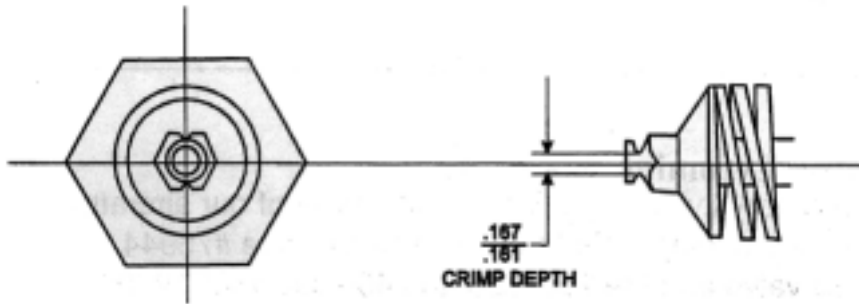

Figure 1.
Step 1 is the dimensional inspection of the crimp nut. The crimp depth on the nut must be .161 – .167 as shown in Figure 1.